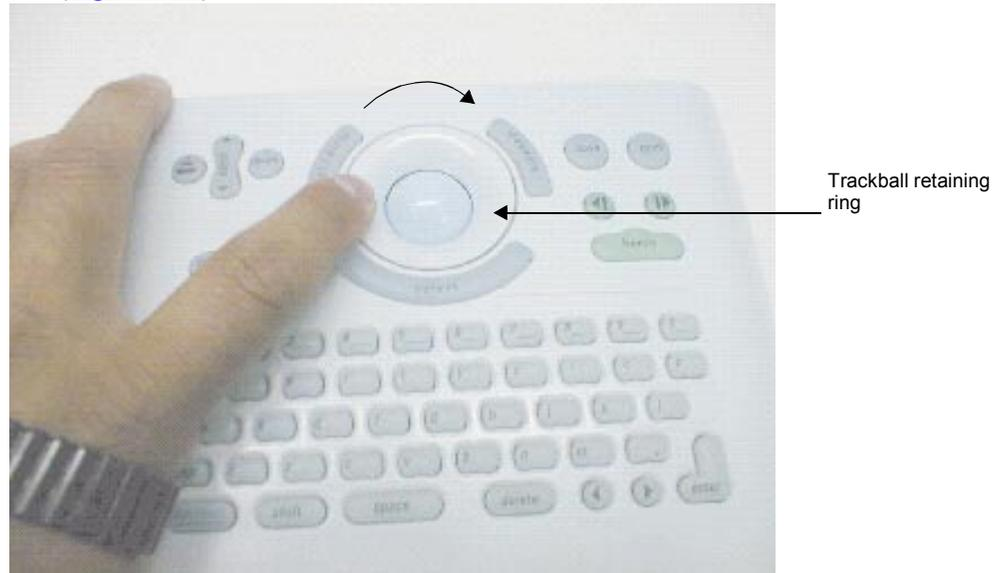

Figure 7.15 Installing the Trackball Retaining Ring
6. Turn the Control Panel over and install the new trackball retaining ring. Use your fingers to press and turn the ring slightly clockwise until it locks into place (Figure 7.15).